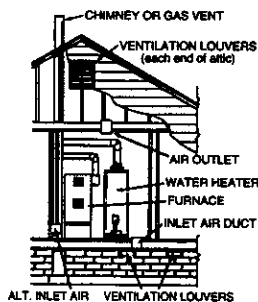

Figure 7
### b. ALL AIR FROM OUTDOORS: (see Figures 7 through 9, page 12)
1. When directly communicating with the outdoors, each opening shall have a minimum free area of 1 square inch per 4,000 BTU per hour of total input rating of all equipment in the enclosure. (See Figure 7.)